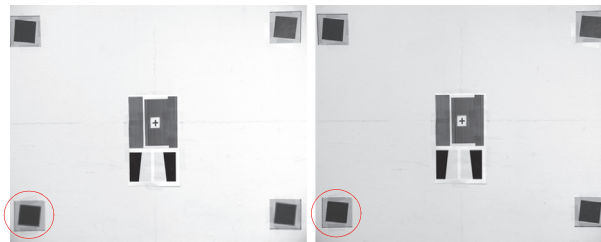

Figure 46: Target image - before (*left*) and after (*right*) Z adjustment
- Using an EF-Mount compatible lens, set the lens to infinity and image on a target, 10 to 15 m should suffice. Target should highlight focus levels at center image and at the corners of the image, as shown in figure 46. A lens with a long focal length, or adjustable zoom lens, will allow more precision for this operation and reduce the overall size of your target.